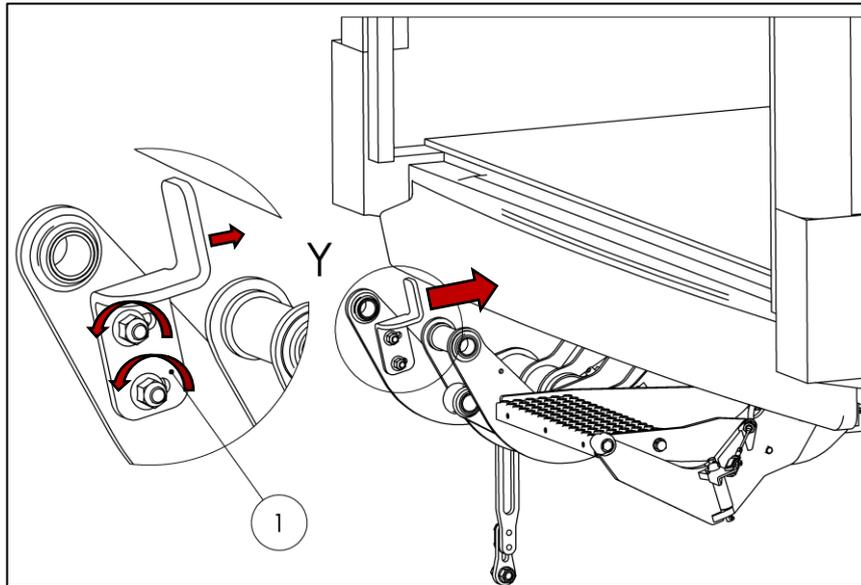

Fig. 57
- Loosen the platform stop (1) and push it toward the vehicle (see Fig. 57).